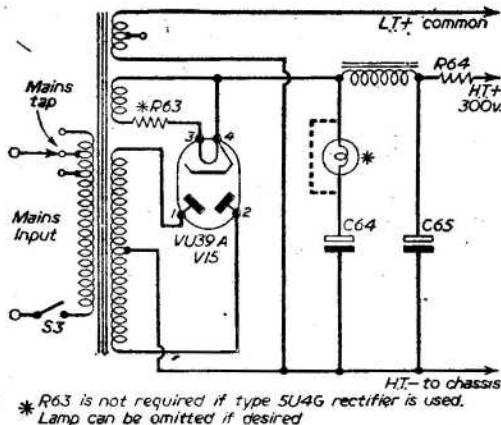

Fig. 9.—Circuit of power pack.
Fig. 9 shows the complete circuit.
**SYMBOLS FOR FIG. 9**